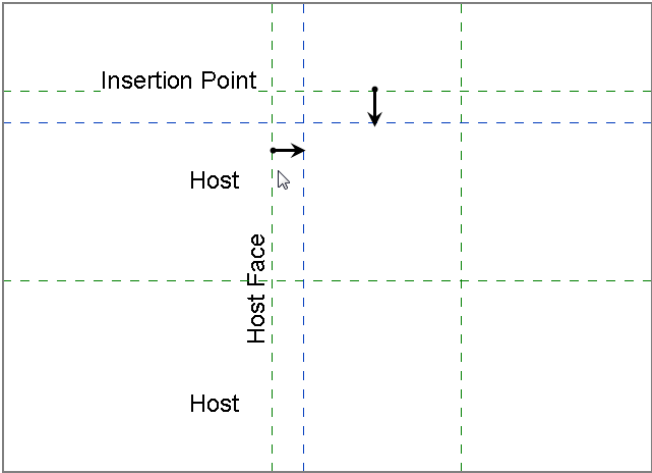

FIGURE 17.4: Offsetting two more reference planes
3. Offset the left vertical reference plane to the right (see Figure 17.4).